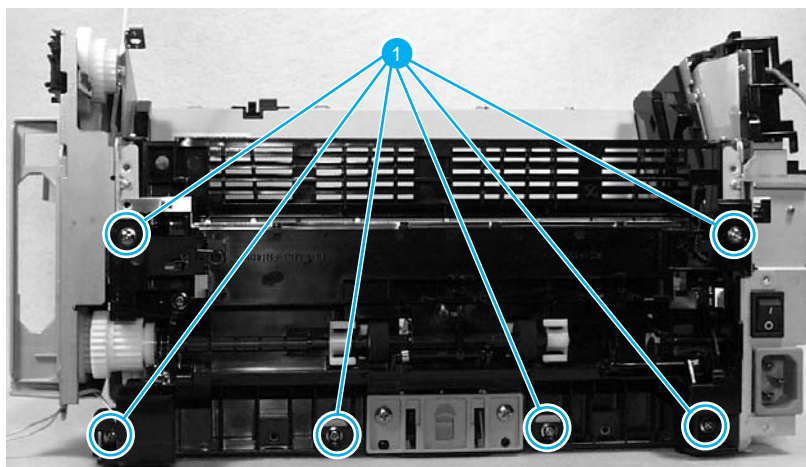

Figure 5-24. Removing the paper pickup assembly
7. Remove 6 screws (callout 1, figure 5-24).